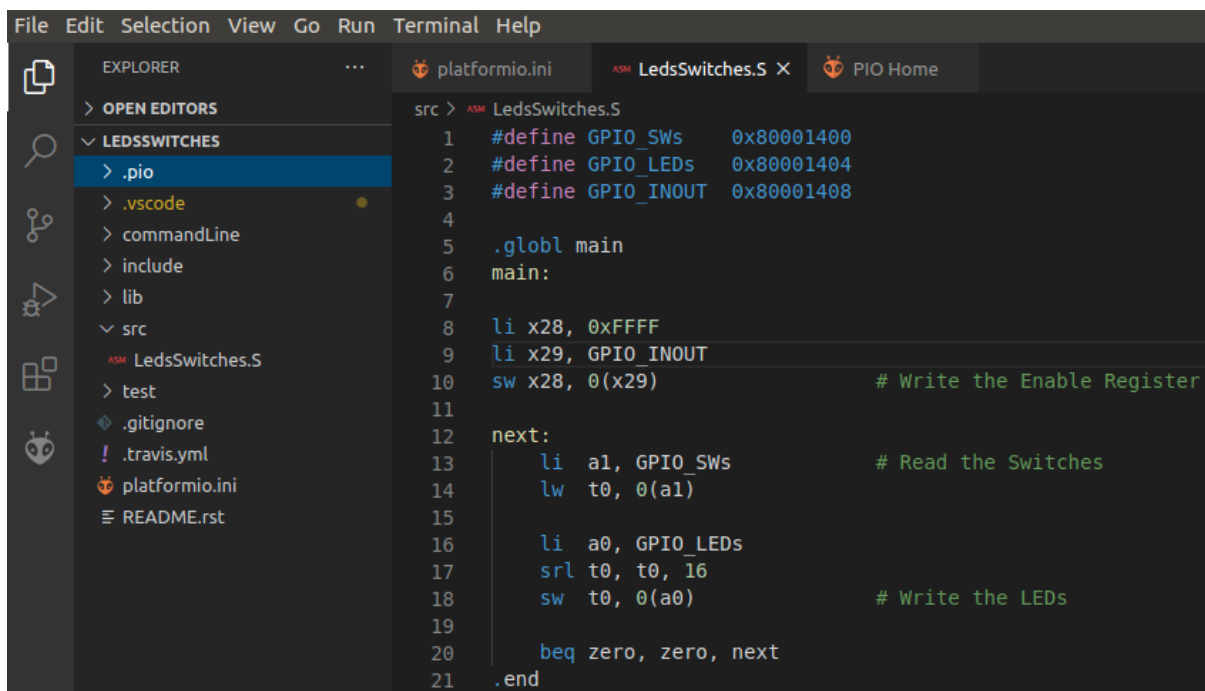

Figure 54. LedsSwitches.S in PlatformIO
3. The program *LedsSwitches.S* has an infinite loop where the switches are read and then their state is shown on the LEDs (Figure 54).